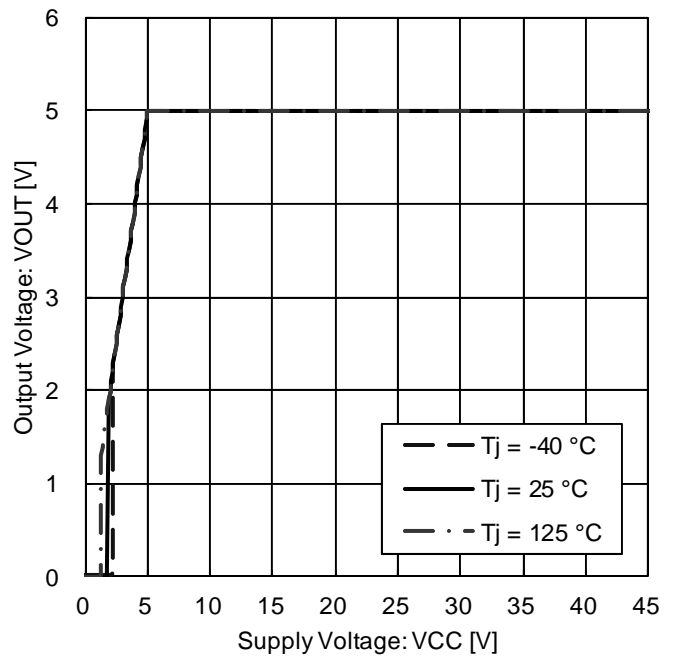

Figure 24. Output Voltage vs. Power Supply Voltage
*Magnified Figure 24. at low supply voltage